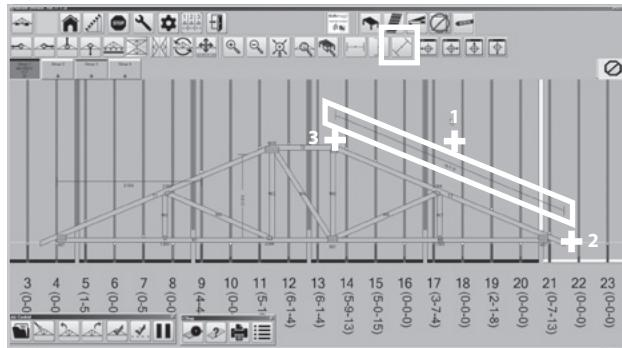

Figure 48
3.8.3. Diagonal dimension (Figure 48):